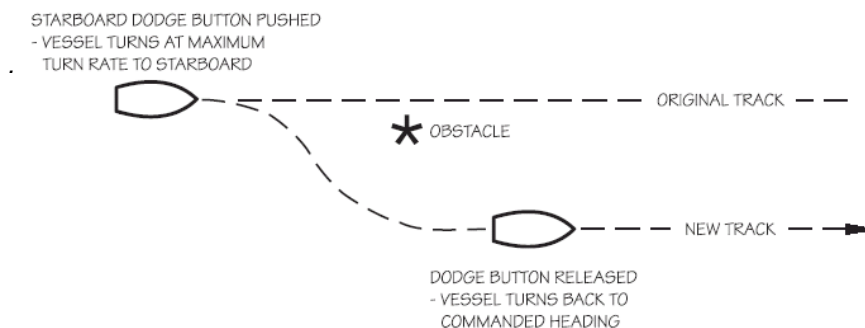

Figure 55 – Vessel Track During a Dodge Manoeuvre in AUTO Mode
**NOTE:** If you dodge the vessel in AUTO or WORK modes, when you release the PORT or STARBOARD ARROW button, the vessel will return to the same Heading, but not the same Track. The new Track will be offset from the original Track by the distance traveled during the Dodge manoeuvre. This is illustrated in Figure 55.